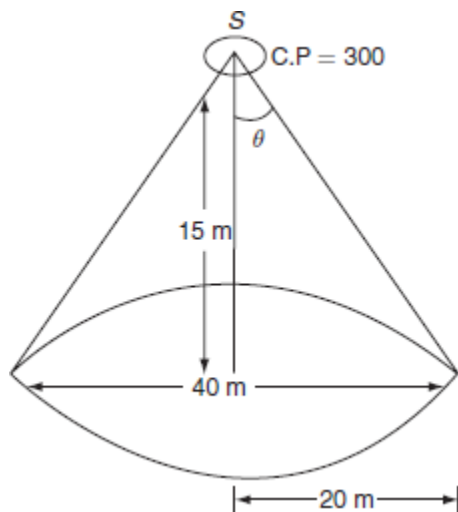

Fig. P.6.3
1. The illumination on the circular area (Fig. P.6.3):